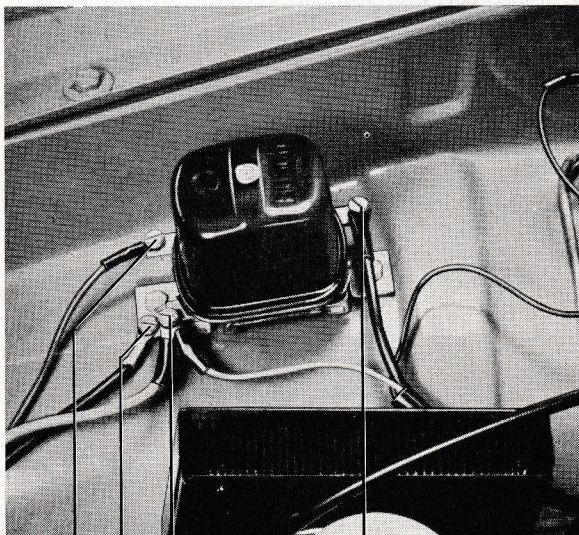

Fig. 51. Charging control terminals.
3. Connect the leads as shown in Fig. 51.